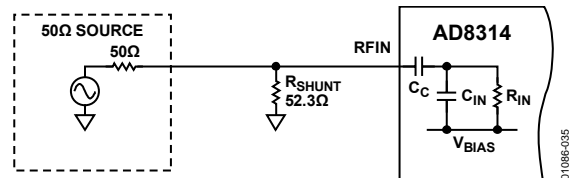
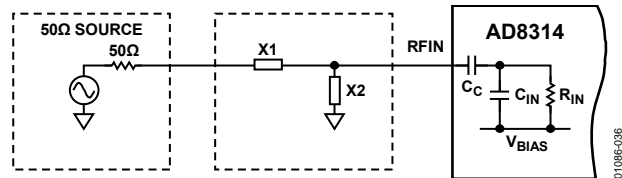
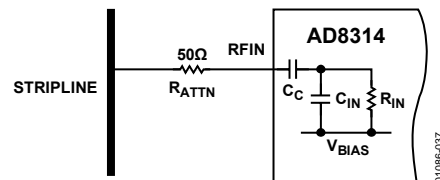

Figure 35. Broadband Resistive
Figure 36. Narrowband Reactive
Figure 37. Series Attenuation
The internal 5 pF coupling capacitor of the AD8314, along with the low frequency input impedance of 3 k $\Omega$ , gives a high-pass input corner frequency of approximately 16 MHz. This sets the minimum operating frequency. Figure 35 through Figure 37 show three options for input coupling. A broadband resistive match can be implemented by connecting a shunt resistor to ground at RFIN (see Figure 35). This 52.3  $\Omega$  resistor (other values can also be used to select different overall input impedances) combines with the input impedance of the AD8314 (3 k $\Omega$  || 2 pF) to give a broadband input impedance of 50  $\Omega$ . While the input resistance and capacitance ( $C_{IN}$  and  $R_{IN}$ ) varies by approximately  $\pm 20\%$  from device to device, the dominance of the external shunt resistor means that the variation in the overall input impedance is close to the tolerance of the external resistor.
A reactive match can also be implemented as shown in Figure 36. This is not recommended at low frequencies as device tolerances dramatically varies the quality of the match because of the large input resistance. For low frequencies, Figure 35 or Figure 37 is recommended.
In Figure 36, the matching components are drawn as general reactances. Depending on the frequency, the input impedance at that frequency, and the availability of standard value components, either a capacitor or an inductor is used. As in the previous case, the input impedance at a particular frequency is plotted on a Smith Chart and matching components are chosen (shunt or Series L, shunt or Series C) to move the impedance to the center of the chart. Table 5 gives standard component values for some popular frequencies. Matching components for other frequencies can be calculated using the input resistance and reactance data over frequency, which is given in Figure 12. Note that the reactance is plotted as though it appears in parallel with the input impedance (which it does because the reactance is primarily due to input capacitance).
Figure 37 shows a third method for coupling the input signal into the AD8314, applicable in applications where the input signal is larger than the input range of the log amp. A series resistor, connected to the RF source, combines with the input impedance of the AD8314 to resistively divide the input signal being applied to the input. This has the advantage of very little power being tapped off in RF power transmission applications.
**Table 5. X1 and X2 Recommended Components in Figure 36**